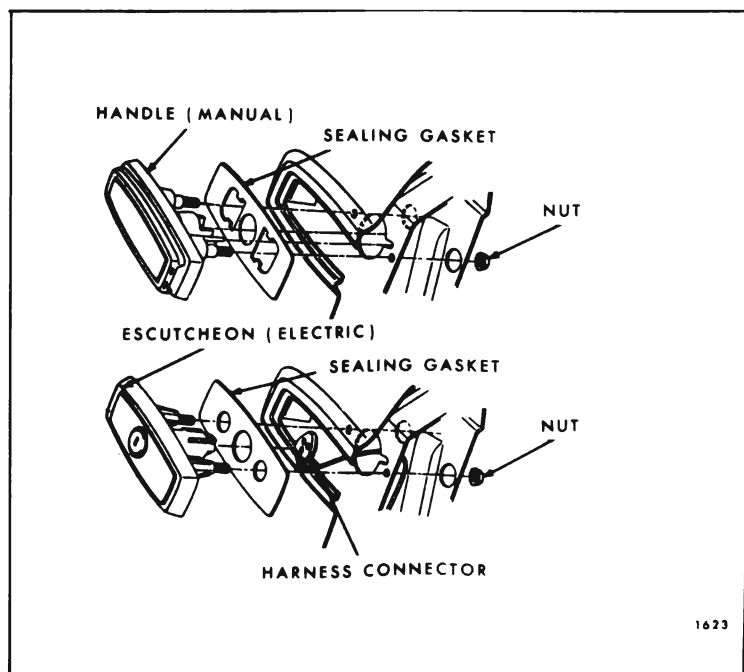

Fig. 9-39—Tail Gate Outside Handle Assemblies
3. Remove nuts securing handle (or key switch) to tail gate and remove handle and sealing gasket. (See Fig. 9-39.)